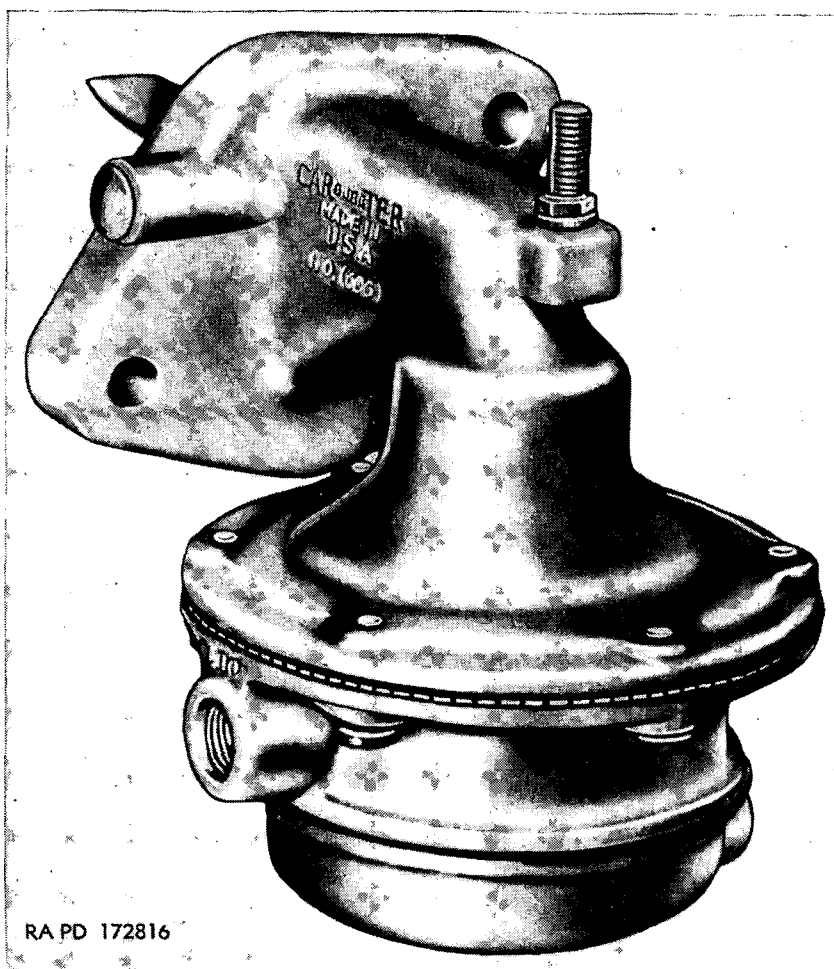

Figure 64. Fuel pump with screen filter (model M639S).
*a. General.* Repair and rebuild of all screen filter type fuel pumps are similar to the instructions contained in this section for the model M639S fuel pump (fig. 64). This model represents a typical screen